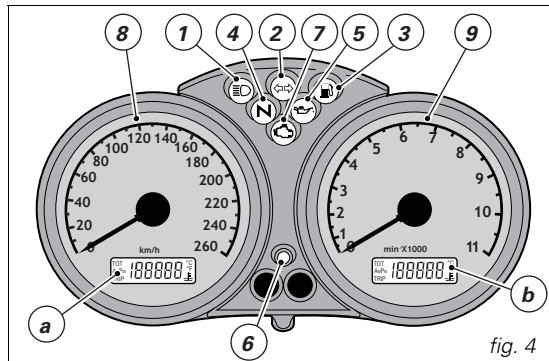
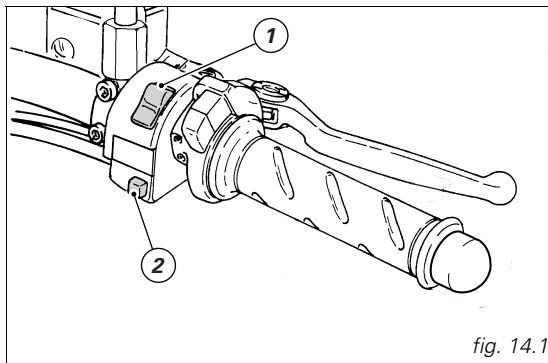

fig. 4
fig. 14.1
### Instrument panel (fig. 4)
In case of faulty immobilizer system, the following procedure gives the chance to disable "engine block" function -immediately signalled by the orange EOBD warning light (7, fig. 4).
1) Turn the key to ON and fully open throttle. Keep it open. The EOBD warning light (7, fig. 4) turns off after 8 seconds.
4) Count as many flashes of the EOBD pilot light (7, fig. 4) as the first digit of the electronic code.
1) if the CPU recognised the code, the light (6, fig. 4) on the instrument panel will flash briefly. This means that the immobilizer system has recognised the key code and enabled engine ignition. Press the START button (3, fig. 14.1), to start the engine;
2) if light (6, fig. 4) or EOBD light (7, fig. 4) stay on, it means that the code was not acknowledged. When this is the case, turn the ignition key back to OFF and then to ON again. If the engine still does not start, try with another black key.
3) Should the pilot light (6, fig. 4) still be flashing, it means that an immobilizer system fault was reset (e.g. with the overriding procedure through throttle grip). Turn the key to OFF and back to ON, the immobilizer pilot light should go back to its normal operation (see point 1).
**Rh switch** (fig. 14.1)